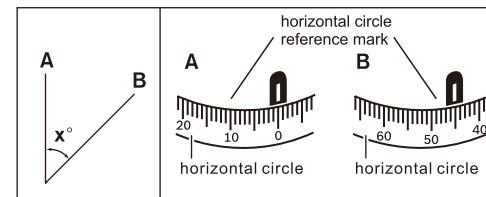

fig.7
- 1.Shoot the instrument toward A, rotate the horizontal circle 2 with "0" point toward the reference mark 3. (see fig.7 )